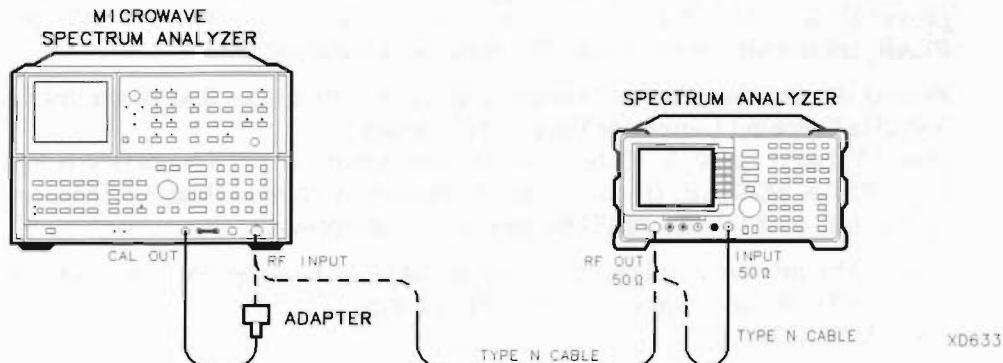

Figure 2-94. Harmonic Spurious Outputs Test Setup
2. Connect the Type N cable between the RF OUT 50 Ω and INPUT 50 Ω connectors on the spectrum analyzer. See Figure 2-94.
4. Connect the Type N cable from the tracking generator output to the microwave spectrum analyzer RF INPUT as shown in Figure 2-94.